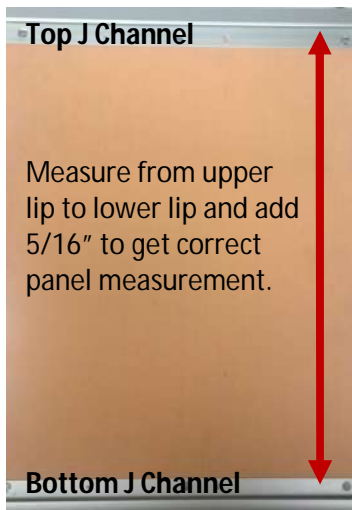

Figure 4
3. Measure the opening where the panel will sit (note: the measurement is different for snap frames and J channels- take care that you determine the correct measurement to use for the various hardware systems and combinations we offer). If using J channel **top** (has a 5/8" lip) and J channel **bottom** (has a 3/8" lip) you **MUST** add 5/16" to the opening height dimensions to get the correct measurement to cut down the light guide panel (LGP) with the light bar (LB) attached. (see figure 4) The LB and top of the LGP goes into the J channel **top** only (it will not fit into the J channel bottom). Make sure the opening measurements are the same across the entire length of the area to receive Lumisplash regardless of the moldings used. If not then adjust. Panels, when cut-to-size, slide under upper J channel lip and clear lower J channel lip when pushed in place. They then drop down into the lower J channel bottom.